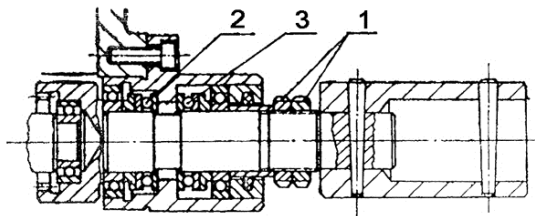

Figure 47 – Lead screw runout adjustment
To ensure the pitch accuracy in cutting threads, any axial run-out of the lead screw must be eliminated. See Figure 47. This is achieved by adjusting the thrust bearings (2 and 3) using the nut (1).